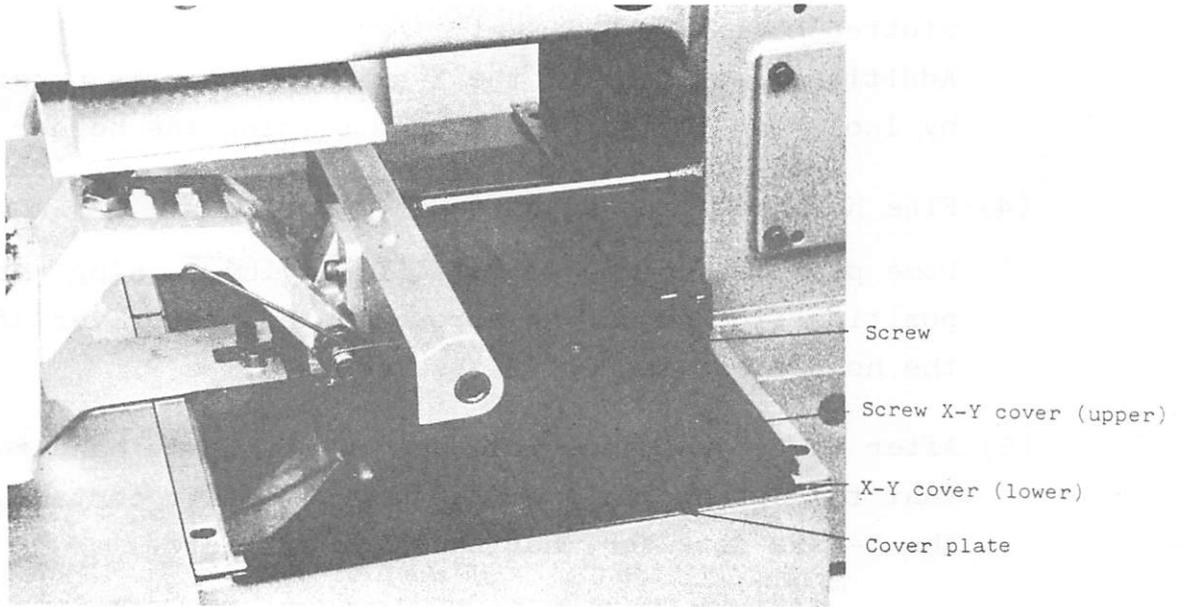

Fig. 10.26
- (1) Remove the X-Y cover (upper) clamping screws, and the X-Y cover (upper). (see Fig. 10.26).
- (2) Remove two cover guide (left) clamping screws.
- (1) After stitching of small patterns is repeated for long and the power is turned off, the work holder may not be moved by hand throughout the entire sewing area. This is caused by displacement of the X-Y table retainer. In this case, retainer position can be corrected by letting the table strike against the X and Y stoppers several times.
- (2) Long use may result in heavy movement of the X-Y table due to dust deposited on races. In this case, remove the X-Y cover (upper), X-Y cover (lower) and cover plate (see Fig. 10.26 and 10.27), oil and clean the races.
- (3) When the movable race is shifted, the moving distance of retainer is reduced to half of race moving distance.